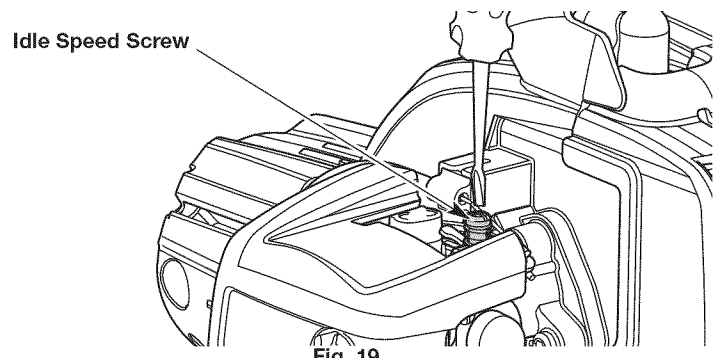

Fig. 19
- If the engine stops, increase the idle speed. Use a small Phillips screwdriver to turn the idle speed screw clockwise, 1/8 of a turn at a time, until the engine idles smoothly (Fig. 19).
- If the cutting head spins when the engine idles, reduce the idle speed. Turn the idle speed screw counterclockwise, 1/8 of a turn at a time, until the cutting head stops moving (Fig. 19).